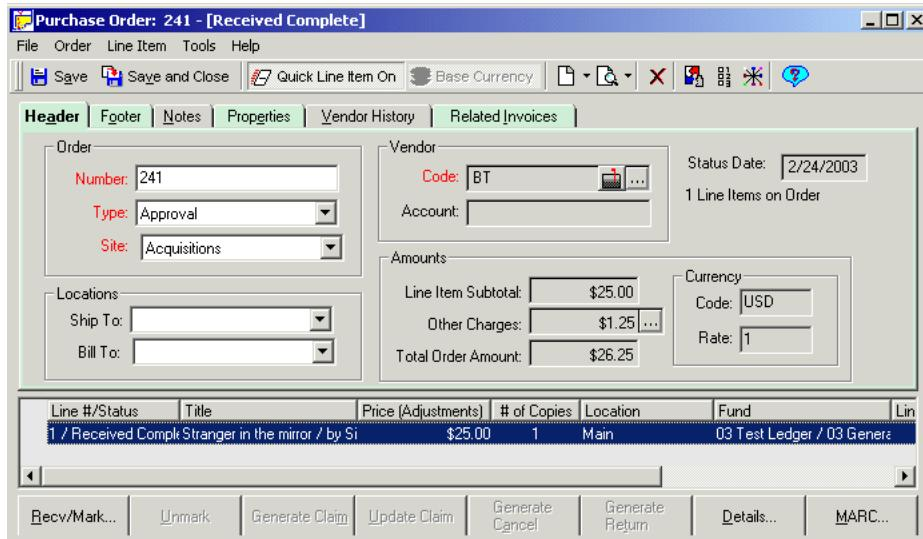

Figure 13-2. Line Items section of a Purchase Order - MARC button displayed
- The **MARC** button (Figure 13-2) in the Line Items section of a Purchase Order. This button can be used to display MARC bibliographic records associated with the line items on a purchase order. See Adding Line Items to a Purchase Order on page 6-15 for more information about the Line Items section of a purchase order.